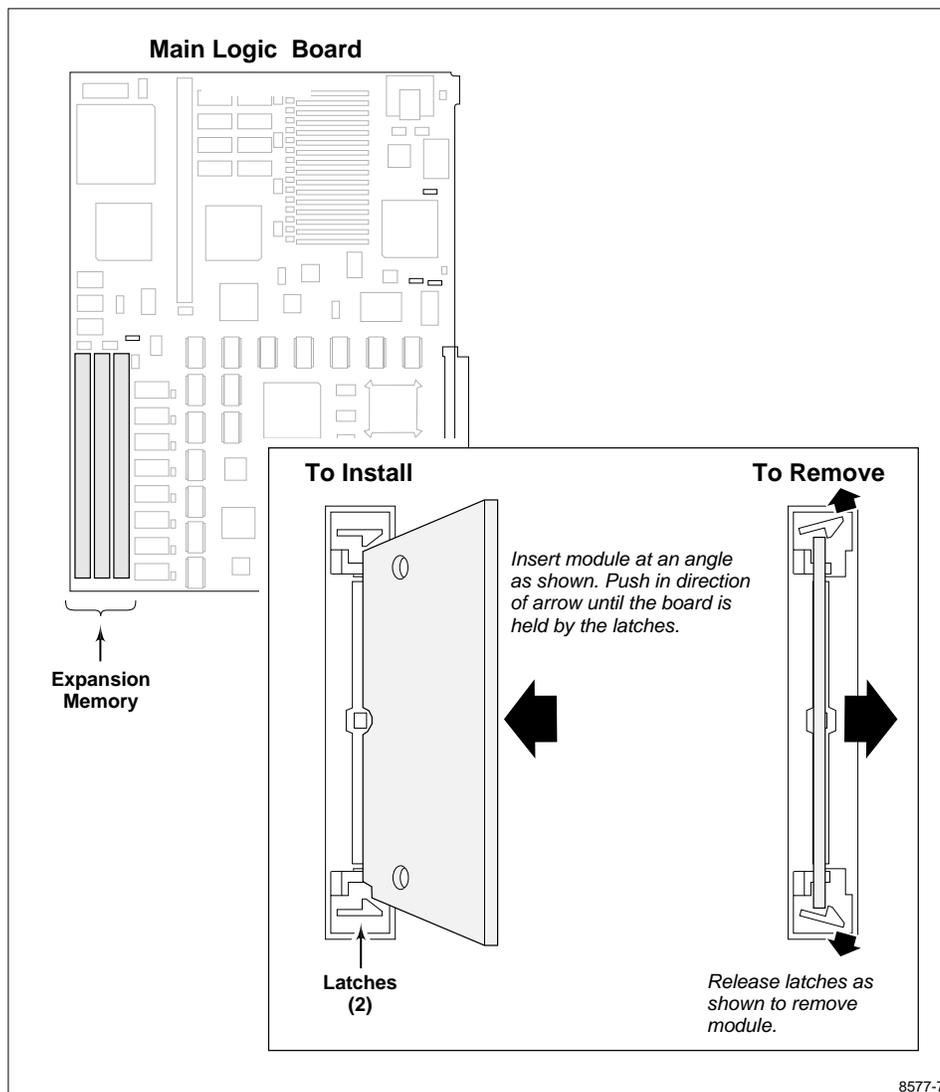

Figure 4. Installing and Removing the Expansion Memory
4. Remove any currently installed Expansion Memory boards (as shown in Figure 4) that may interfere with the installation of the new board.
5. Install the new Expansion Memory board (again, see Figure 4), then re-install (if necessary) any Expansion Memory boards previously removed.